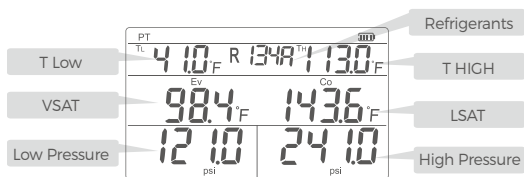

FIG.1 Diagram of Saturation Temperature Submode
2.Press the power key to turn on, and enter the main interface [FIG.1] .
Read the data after refrigerant setting is done, the interface [FIG.1] displays the measured pressure, temperature, saturation temperature and evaporation temperature at high and low pressure sides.